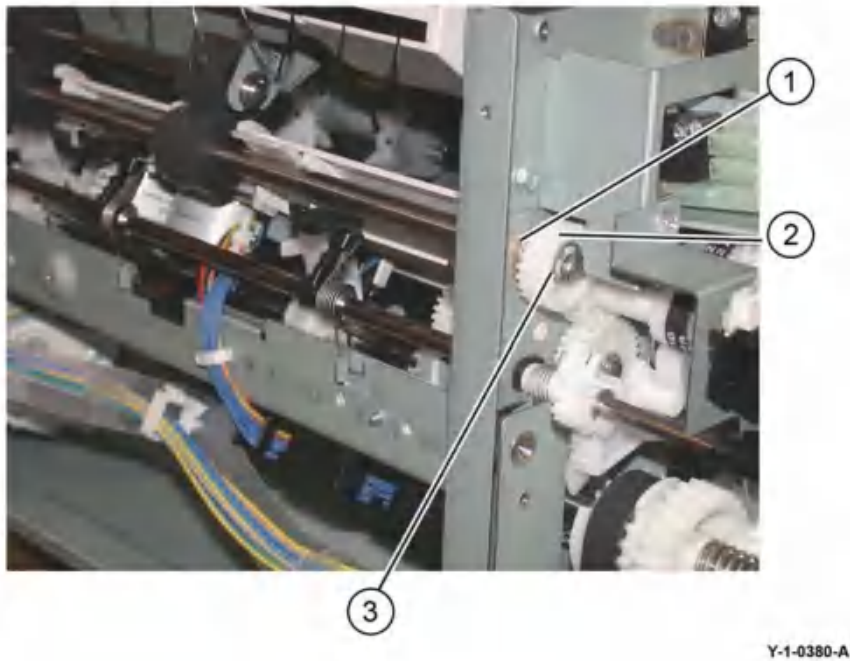

Figure 19 Eject roll shaft rear components
12. Install the brass bearing (1), gear (2) and E-ring (3) onto the rear of the eject roll shaft, Figure 19.